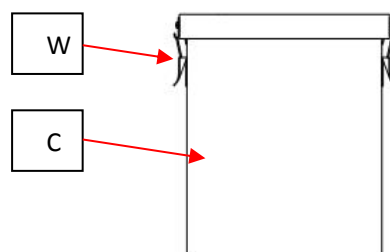

Fig 5.7
5.7 Collecting bucket installation (fig 5.7)